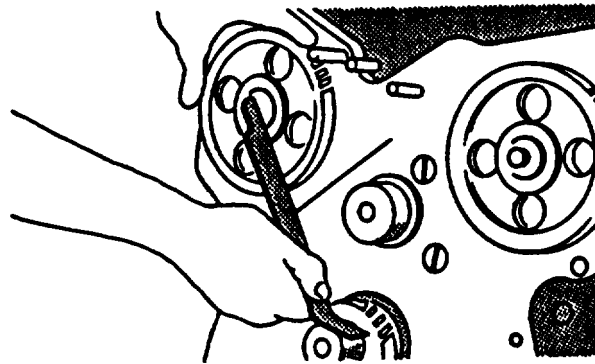

FIGURE 3-113. Aligning Timing Mark and Camshaft Gear
- (1) With timing tool (JD-254) resting on nose of crankshaft, turn camshaft (3) until timing mark aligns with center of camshaft gear (5), refer to FIGURE 3-113.
- (2) Check injection pump gear timing with timing tool (JD-254). Timing mark with 4" beside it, must align with center of injection pump gear.